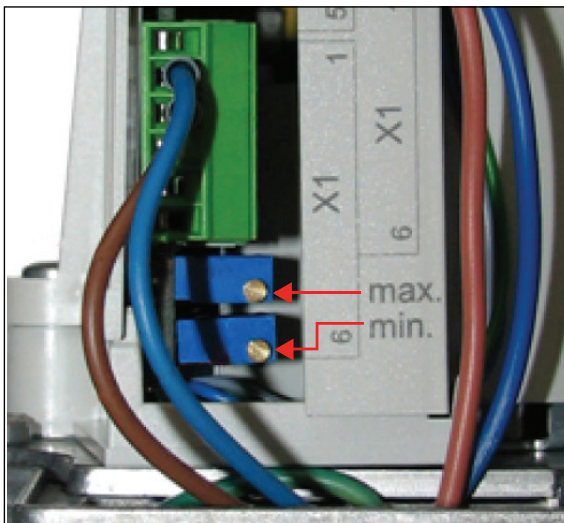

Figure 3.6.
4. Adjust "max" potentiometer (Figure 3.6).